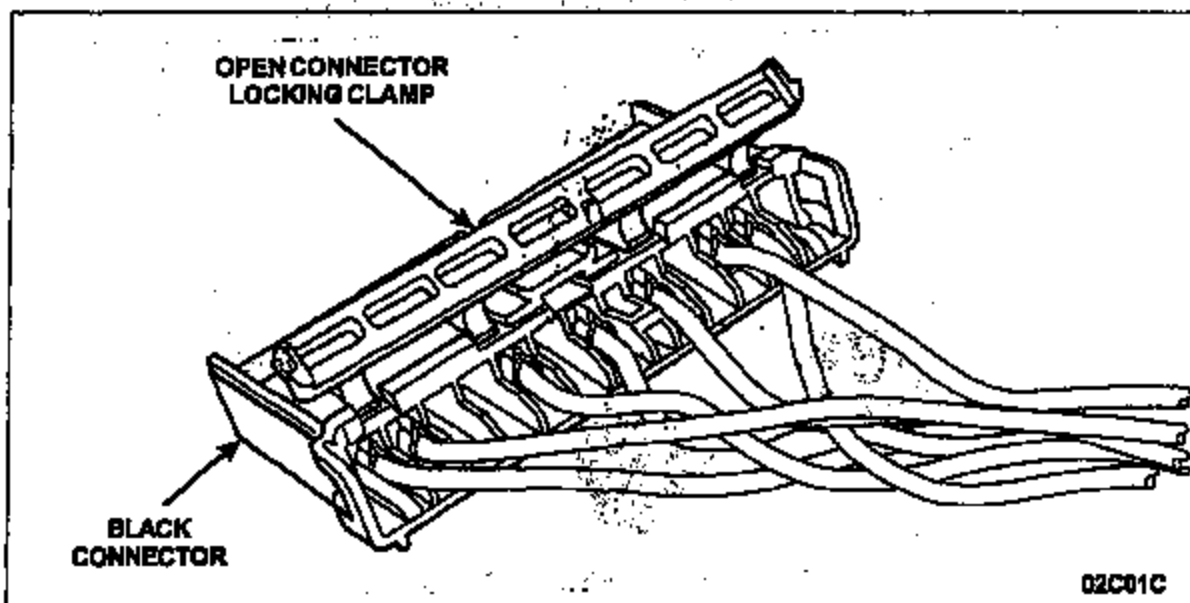

FIGURE 3
4. Open the black 12-pin connector locking clamp. See Figure 3.